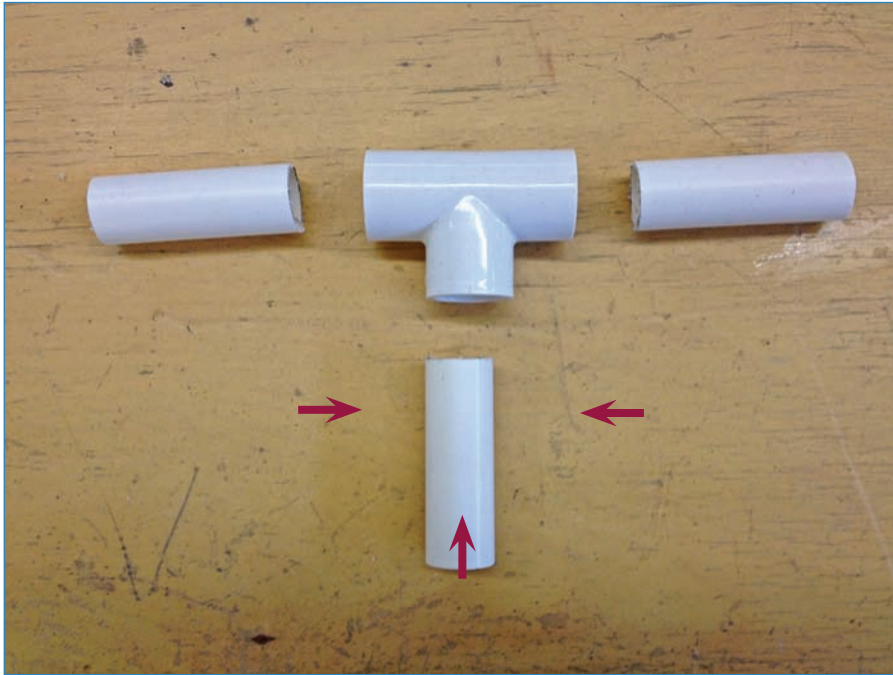

FIGURE 7.10 Start by cementing some PVC!
1. Grab the T-shaped PVC connector and connect the three 2.5" lengths of PVC, as shown in Figure 7.10. Secure the parts with PVC cement. The T should be arranged so one leg is pointing down, one pointing up, and one pointing backward.